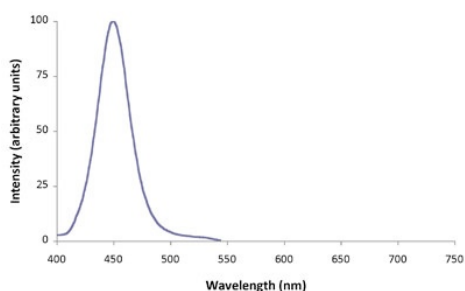
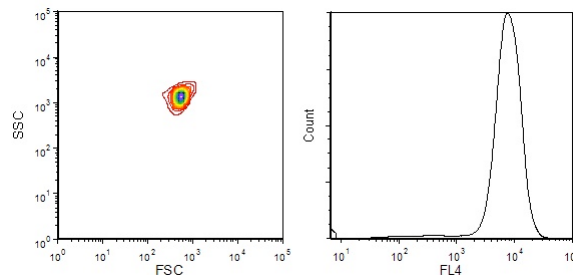

Figure 1. Emission spectrum of Zepto™ Ultra Blue Carboxyl Microspheres.
Figure 2. FSC-SSC plot and fluorescence histogram in the DAPI/Pacific Blue channel of Zepto™ Ultra Blue Carboxyl Microspheres on a flow cytometer.
The emission spectrum is illustrated in Figure 1. They are a suitable for a wide range of fluorescent assays such as flow cytometry-based assays. Their Forward Scatter (FSC) vs. Side Scatter (SSC) plot and fluorescence histogram in the DAPI/Pacific Blue (405 nm excitation; 455 nm emission) on a typical flow cytometer are illustrated in Figure 2.
1. Gate on the single population of microspheres on FSC vs. SSC plot (refer to Figure 2)